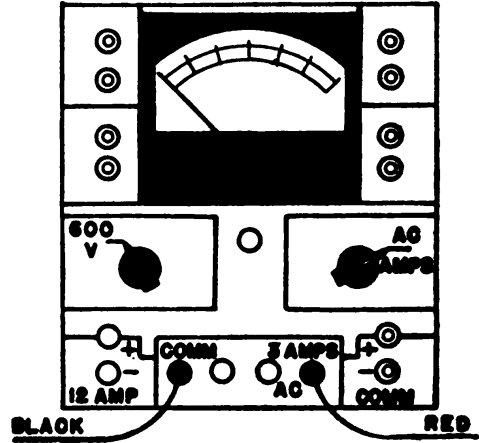

FIG. 6C: 0-3 AMPS, 0-6 AMPS,
**CAUTION:** When measuring current in amperes, do not remove the test leads from the binding posts while the current is flowing. The resulting arc may cause the binding posts to char if this precaution is not observed. See figure 6C and table II for switch positions, meter scales, and jack connections, and proceed as follows:
- (1) Observe the caution outlined above.
- (2) Set the circuit selector switch to A.C. AMPS. position.
- (3) Set the range selector switch to 600 V. position. The range selector switch may actually be set at any position, but it is always safe to keep it at 600 V. whenever possible in order to reduce the chances of damaging the meter by an improper connection.
- (4) Insert the red test lead in the 3 AMPS-A.C., 6 AMPS-A.C., or 12 AMPS A.C. binding post, depending upon the range desired. Connect the black test lead to the —COMMON binding post.
- (5) Read as follows: